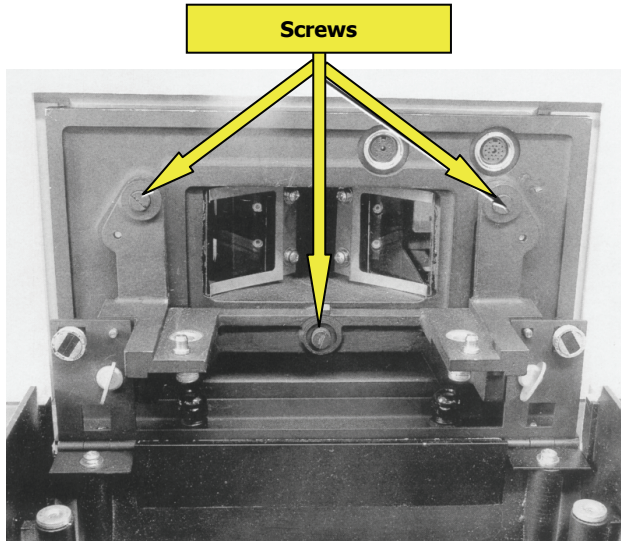

Figure 109 Accessory bracket screws
3. Remove the sample area cover and accessory bracket by undoing the three fixing screws as shown in Figure 109.